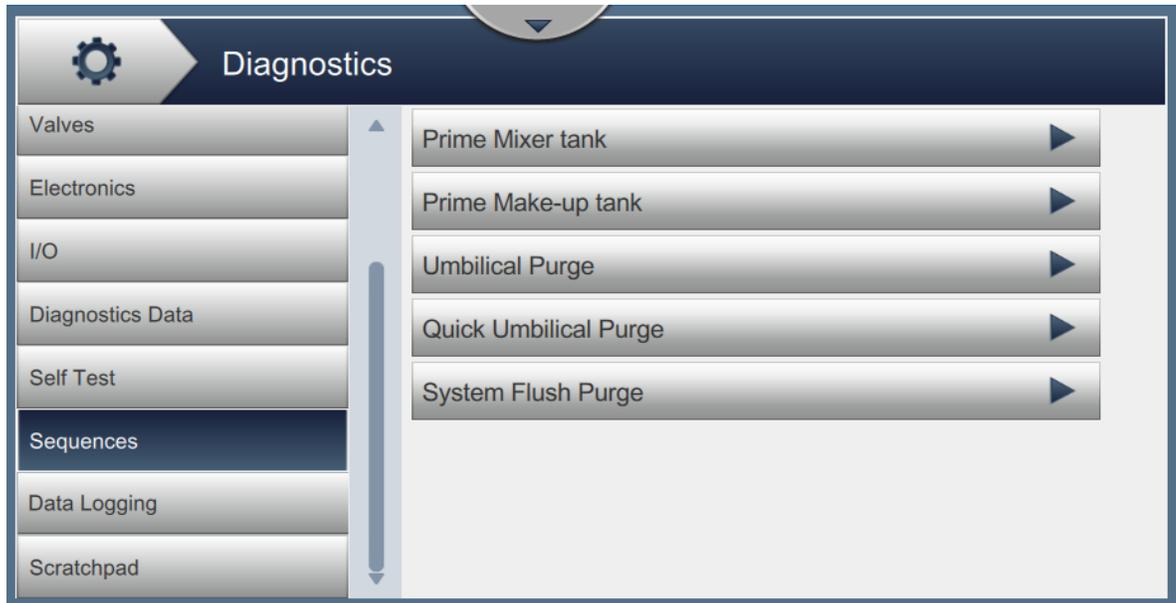

Figure 5-5: Sequences Screen
1. Touch the  button from the Tools screen. The Diagnostics screen opens. Select the option *Sequences* as shown in Figure 5-5.